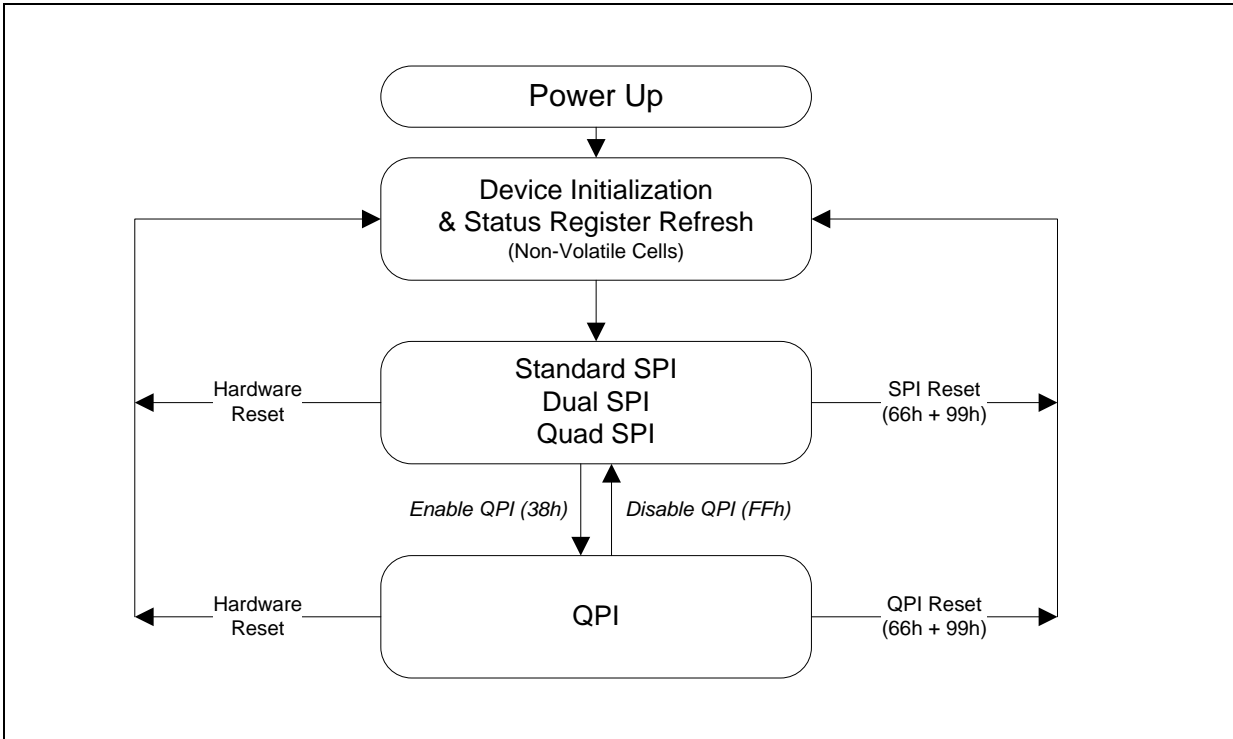

Figure 3. W25Q64JV Serial Flash Memory Operation Diagram
The W25Q64JV supports Quad Peripheral Interface (QPI) operations only when the device is switched from Standard/Dual/Quad SPI mode to QPI mode using the “Enter QPI (38h)” instruction. The typical SPI protocol requires that the byte-long instruction code being shifted into the device only via DI pin in eight serial clocks. The QPI mode utilizes all four IO pins to input the instruction code, thus only two serial clocks are required. This can significantly reduce the SPI instruction overhead and improve system performance in an XIP environment. Standard/Dual/Quad SPI mode and QPI mode are exclusive. Only one mode can be active at any given time. “Enter QPI (38h)” and “Exit QPI (FFh)” instructions are used to switch between these two modes. Upon power-up or after a software reset using “Reset (99h)” instruction, the default state of the device is Standard/Dual/Quad SPI mode. To enable QPI mode, the non-volatile Quad Enable bit (QE) in Status Register-2 is required to be set. When using QPI instructions, the DI and DO pins become bidirectional IO0 and IO1, and the /WP and /HOLD pins become IO2 and IO3 respectively. See Figure 3 for the device operation modes.